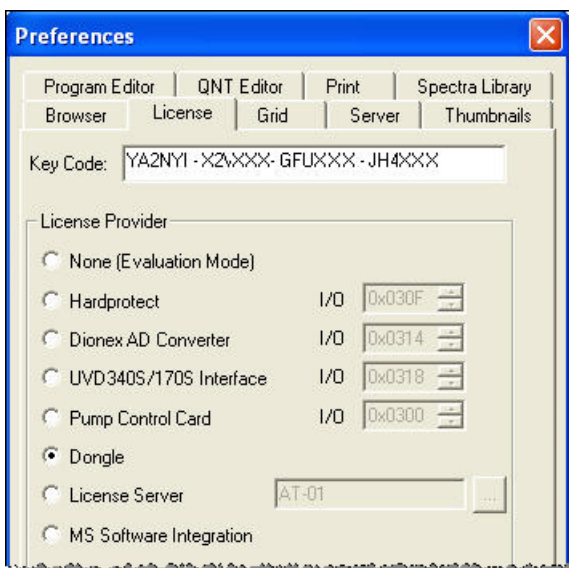

Figure 10. Chromeleon License
3. Click the **Preferences** button and select the **License** tab (see Figure 10).